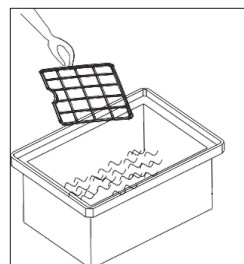

Fig. 3
3. Rinse the air filter under running water (Fig. 3).